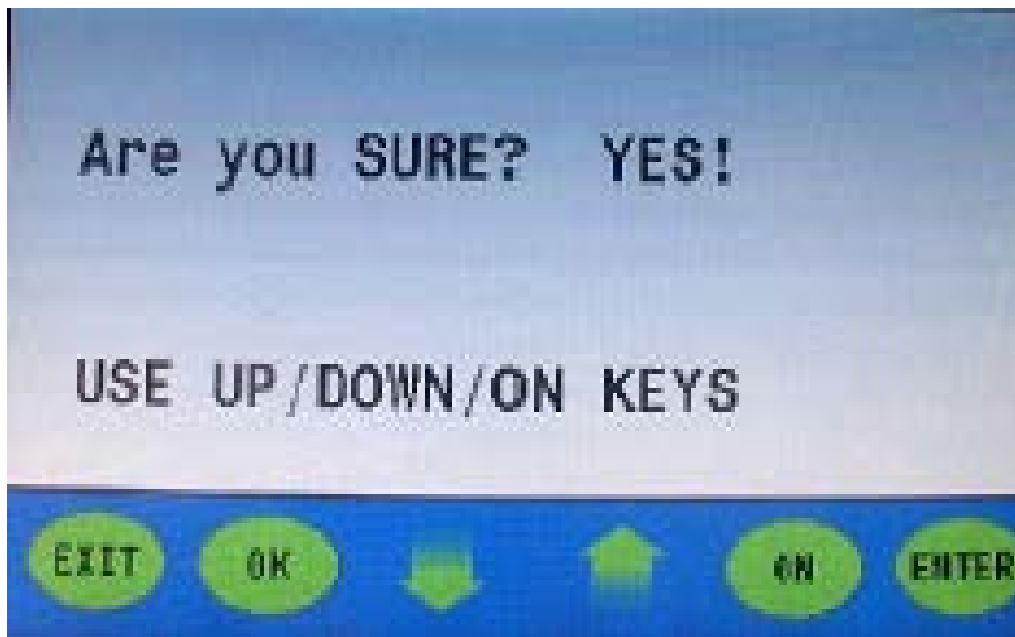

Figure 4
4. Using the **up** or **down arrows**, switch to "**yes**" (**figure 4**).
5. Press "**on**" to enter "**yes**" (**figure 4**).
6. Press the **exit button** twice (2) to return to main screen (**figure 4**); password protection is enabled.